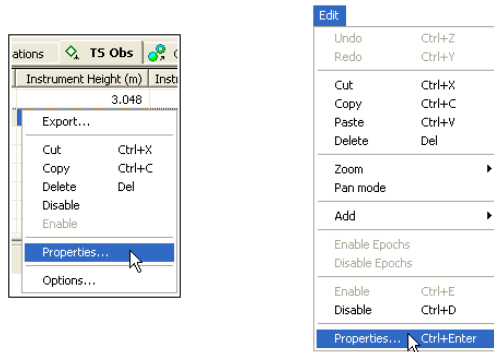

Figure 5-79. Ways to Open Properties
2. Right-click the selected occupation(s) and click **Properties** on the pop-up menu, or click **Edit ▶ Properties** (Figure 5-79).